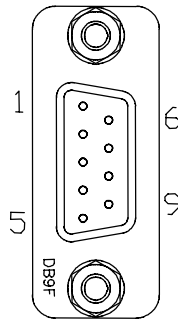

Figure 2-1 J5 Alarm Connector
2. Connect POWER IN (+27 Vdc) to the subrack. Refer to figure 2-1 for pin locations and Table 2-2 for pin designations.
The Alarm Interface connector on the front panel of the MCR20930-1-2 Booster Amplifier Subrack is a 9-pin female D-sub connector that permits serial interface with the external alarm monitor. Refer to figure 2-1 and table 2-3 for connector definition.